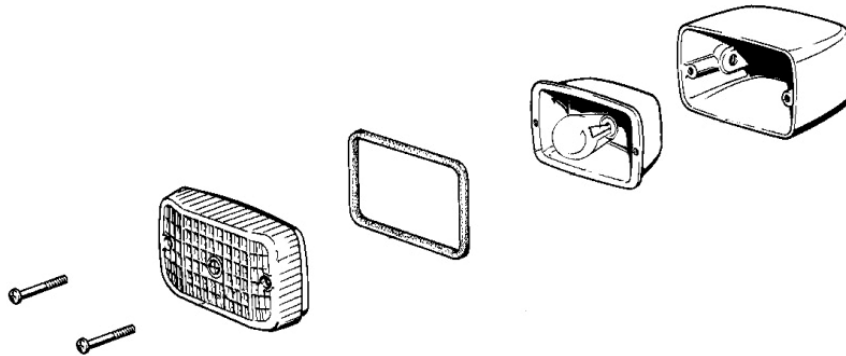
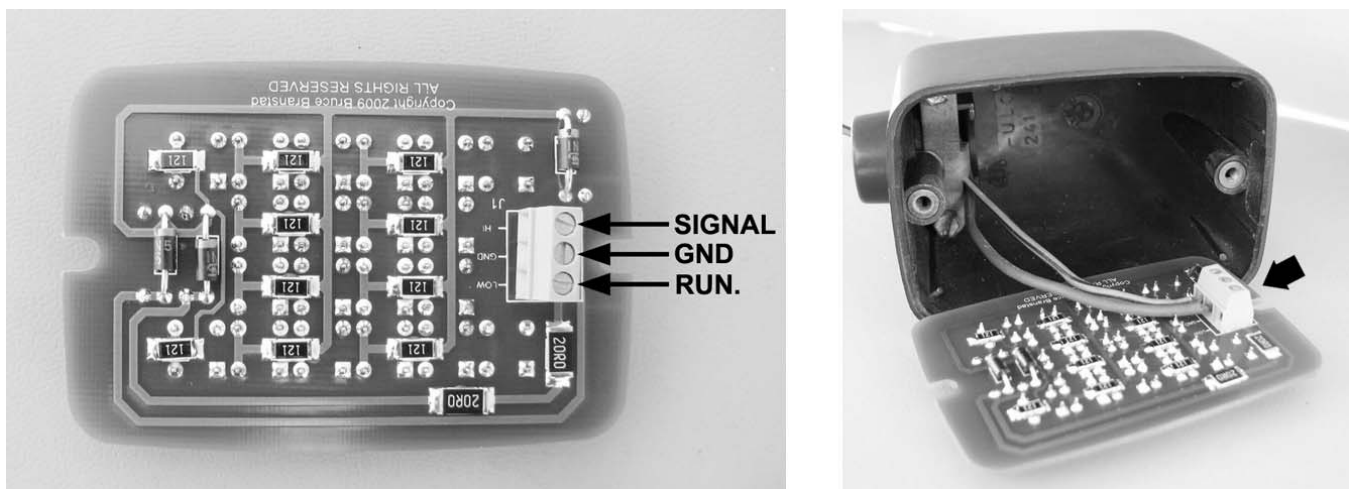
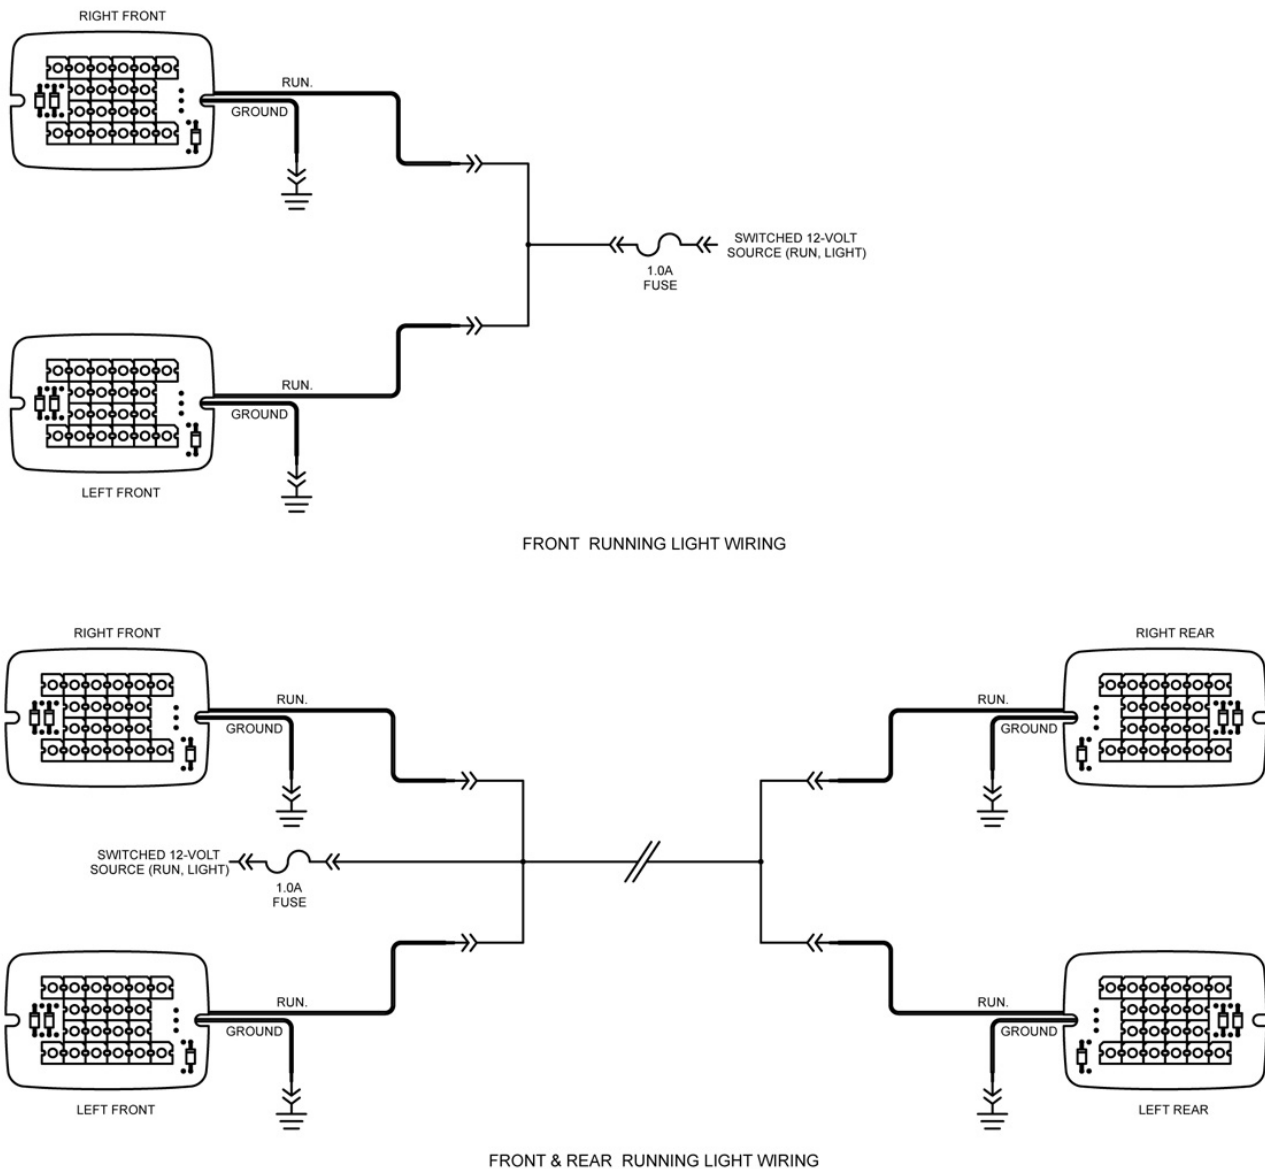

Figure 2
Figure 3
Figure 6
Thank you for choosing the Bulbthatlast4ever™ CD1007 LED Blinker Conversion Kit. This kit has been designed for optimum installation in genuine BMW (ULO) blinker assemblies as illustrated in Figure 2 of the Installation. A genuine BMW (ULO) light assembly was used for all images shown and explanations discussed herein. *If your blinker housings are different from the one shown in Figure 3 (right), these LED Boards will not fit or install properly.*
1. Disassemble all 4 blinker light assemblies as shown in Figure 2 to start the installation. Be sure to remove the lens, gasket, and bulb/reflector assembly completely. Be sure to remove the wires from the reflector assembly prior to removal from the housing. The reflector assembly will not be used any further, keep in a safe place to be stored, if desired.
2. Figure 3 (left) shows the function with their labels on the screw terminal block locations. If planning to use the “Running Light” feature, an additional wire might be needed to be installed to use this option. *If you desire to use the “Running Light” function of these LED Boards, please refer to section “How to Use the Running Light Feature of the CD1007s” for complete instructions.*
3. Pull out the existing wires far enough so that they can easily reach the terminal block. Insert the correct wire in the correct location of the terminal block. Using a jeweler flat-blade screwdriver, tighten the screw to secure the wire in its location. It is highly recommend to keep the terminal block to end of the signal housing facing outward of the motorcycle, as illustrated in Figure 3 (right).
Decide which configuration shown in diagram Figure 6 is desired, and then construct an external wiring harness for that desired configuration. Once you have completed constructing of your harness, then connect a wire to each LED Board from the harness. Refer to Figure 3 (left) for the location of where the wire should be installed on the LED Board. It is highly recommended that the power source is connected through a 1.0A fuse, which is switched and only active when the ignition switch is turned on. Secure your harness to the existing main harness